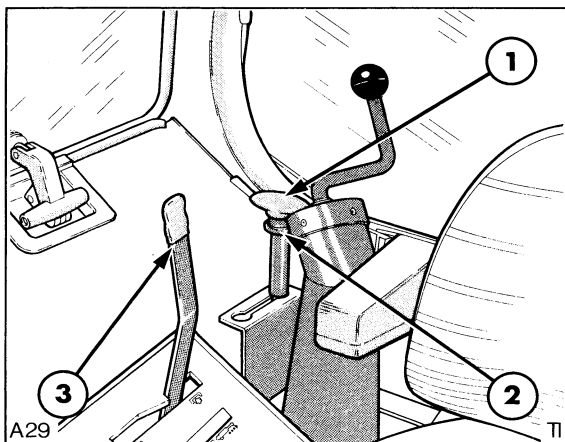

Figure 1
Independent P.T.O. may be engaged or disengaged whether the tractor is moving or stationary. In addition to the P.T.O. selector lever (3) Figure 1, a second lever (1) is used to select the high (1000 P.T.O. rev/min) or low (540 P.T.O. rev/min) ranges.
- With the tractor **stationary** and the P.T.O. selector lever (3) Figure 1, in the **disengaged** position, select the required P.T.O. speed range by means of the shift lever (1). Move the lever forward to engage the high speed range (1000 P.T.O. rev/min) or rearwards to select the low range (540 P.T.O. rev/min).